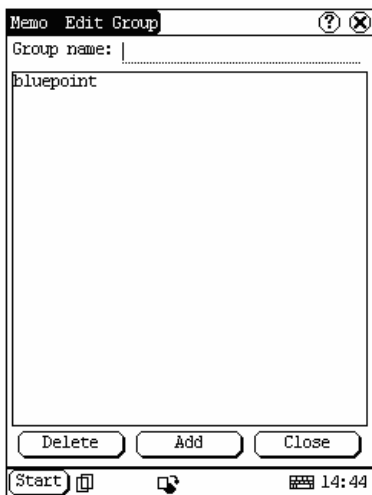

Figure 4-21
- 5) Click [Add] button to add a new type and it will be displayed in the list box of the Edit Group interface. (See Figure 4-21)